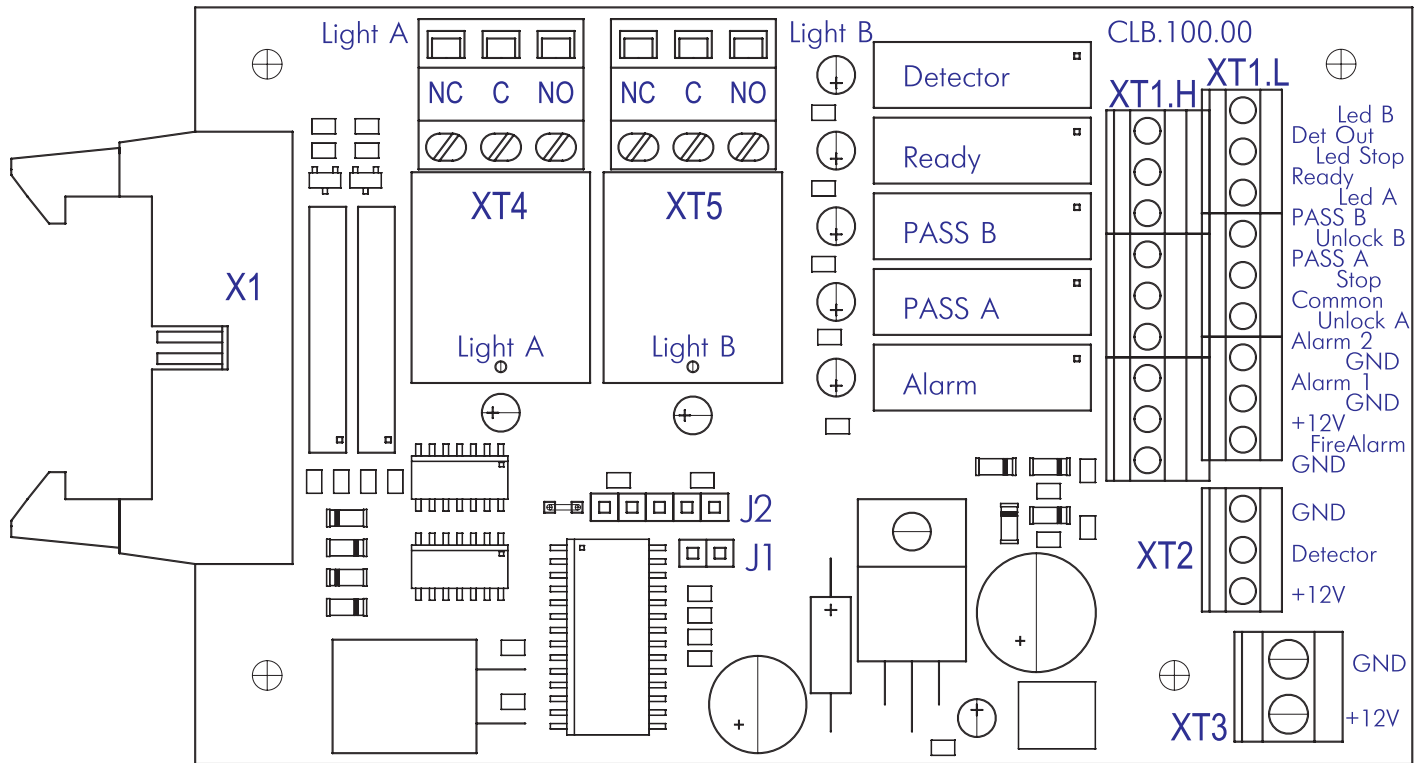

Fig. 2. Control Logic Board (CLB)
5.2.4 The remote control panel (RC) is designed in the form of a small desktop device with a shockproof ABS plastic case and it is intended for setting and indication of the operating modes when the turnstile is operated manually. The RC is connected to the CLB with a multicore cable (13) via the “XT1.L” connector block (See Fig. 2 and Fig. 3).
If the turnstile orientation relatively to the operator's terminal is not standard (e.g. the terminal is placed at the backside of the turnstile housing), the RC orientation towards the turnstile can be changed by exchanging places of the RC wires to the contacts "Unlock A" and "Unlock B" as well as contacts "Led A" and "Led B" accordingly (see Fig. 2 and Fig. 3).
5.2.5 The CLB (Fig. 2) contains:
5.3.2 Connection of the devices stated in Clause 5.3.1 is made with the cable (6) to the corresponding connector blocks “XT1.L” or “XT1.H” of the CLB in accordance with the connection layout (Fig. 2 and Fig. 3).
5.3.7 Pin assignments of the CLB connector blocks are given in Fig.2 and on a label located on the inner surface of turnstile cover (14) with LED display (the same as Fig.2).
5.4.3 The relays “PASS A” (contacts “PASS A” and “Common”), “PASS B” (contacts “PASS B” and “Common”), “Ready” (contacts “Ready” and “Common”), “Detector” (contacts “Det Out” and “Common”) and “Alarm” (contacts “Alarm 1” and “Alarm 2”) have normally open contacts. The “Common” contact, at that, is not connected to the CLB power supply negative terminal. In the initial (inactive) state, when the power is on, the relay contacts “PASS A”, “PASS B”, “Ready” and “Detector” are closed (voltage is supplied to the relay coil) and the “Alarm” relay contacts are broken (voltage is not supplied to the relay coil). The CLB relay operation/release is indicated by lighting up/going down of the red test indicators located near the corresponding relays (Fig. 2).
5.5.2 The control mode is set by the jumper on the J1 connector (the J1 connector location is shown on Fig. 2 and on a label located on the inner surface of turnstile cover (14)): the jumper is fixed — the pulse control mode, the jumper is not fixed — the potential control mode. The jumper is fixed at the factory before the delivery.